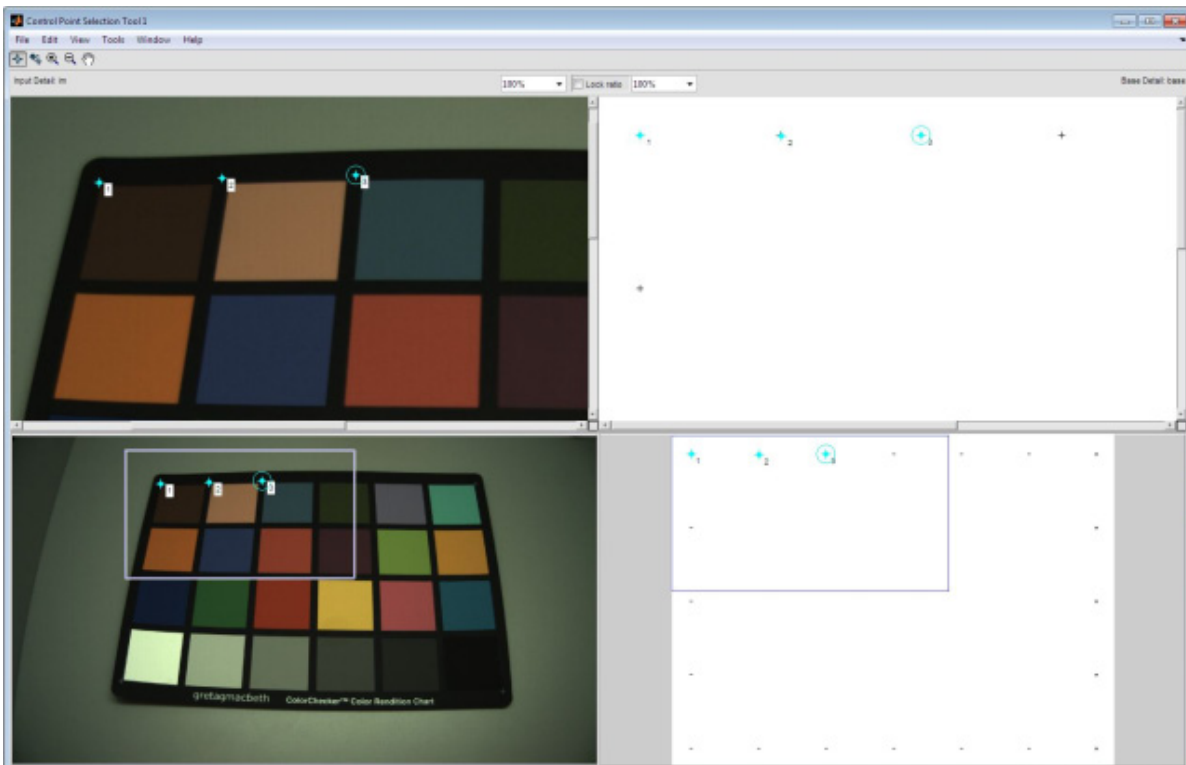

Figure 1) Input registration window
- 2) **Input Registration and De-warping/illumination correction** This script de-warps the image and attempts to get rid of any lens shading and light drop off at the edges of the image. In this script, the user will indicate registration points around the ColorChecker chart image and the corresponding registration point on a diagram of the chart. Refer to Figure 1 below for the following description.
Using the mouse, adjust the sliders on the upper left image to display the upper left corner of the Chart. Adjust the sliders on the upper right image to display the same area of the diagram as shown in the lower right pane. Move the mouse pointer to the white crosshair target in the upper left corner of the upper left image and left click the mouse. The system will place a marker at this location with the number “1” as seen in Figure 2a. Next, use the mouse to select the corresponding location in the upper right image. The image will label this image with a corresponding “1” as shown in figure 2b. Repeat the sequence in the upper left window for location “2” as shown in Figure 2a by moving the mouse to a location between the first and second targets on the top edge in the upper left pane in figure 1. Note: there are only 4 targets on the ColorChecker Chart, so the user needs to make a best estimate of the other locations on the perimeter of the 6x4 color-patch matrix. The locations should be evenly spaced between the targets and at the same distance above/below/left or right of the target edge as the first target. Place the second mark at location “2” in the location shown in Figure 2b. Complete marking the second pair of registration points by placing a mark at the corresponding location in the upper right window.